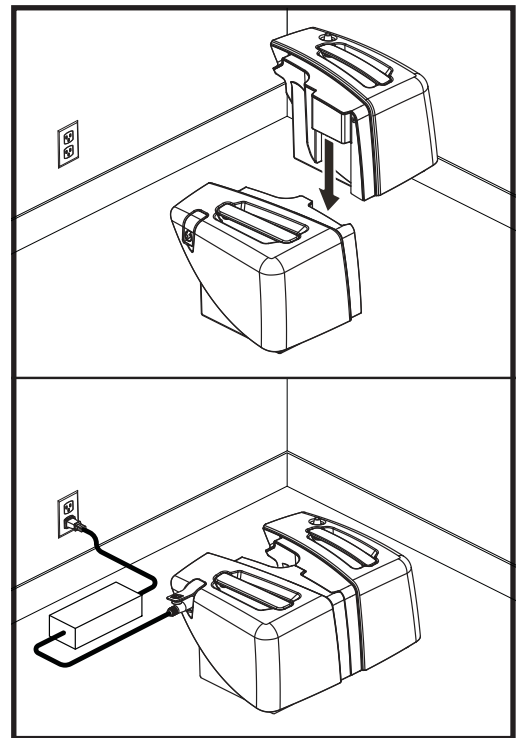

Figure 18. Battery Box Charging (Models 66 and 67)
**NOTE: Models 66 and 67, both battery boxes can be removed from the scooter and then attached together for easy charging. See Figure 18.**